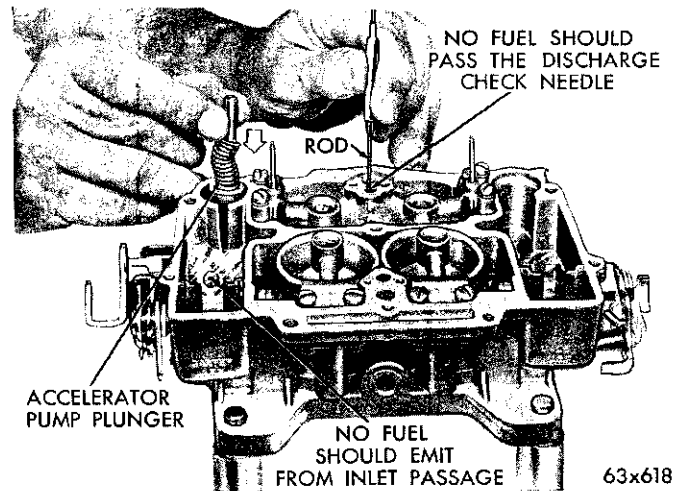

Fig. 14—Testing the Accelerator Pump Check Ball and Discharge Needle
(3) Using a small clean brass rod, hold the discharge check needle firmly down on its seat. Again raise the plunger and press downward. No fuel should be emitted from the discharge or the intake sage, as shown in Figure 14.